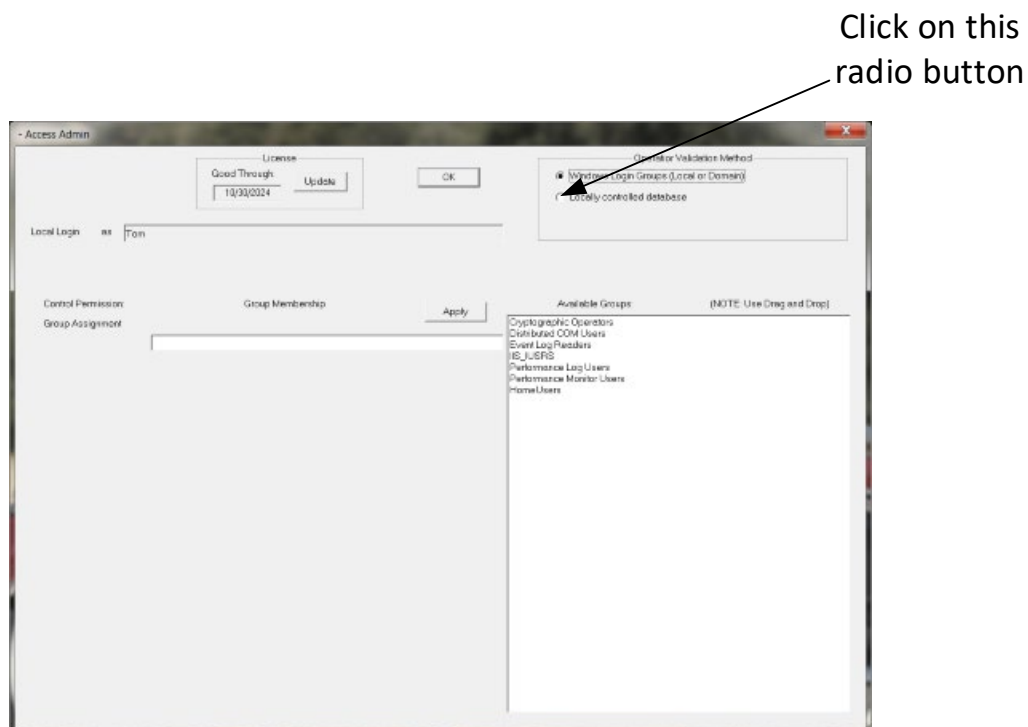

Figure 19 Permissions Window
5. The following screen (Figure 19) will appear: